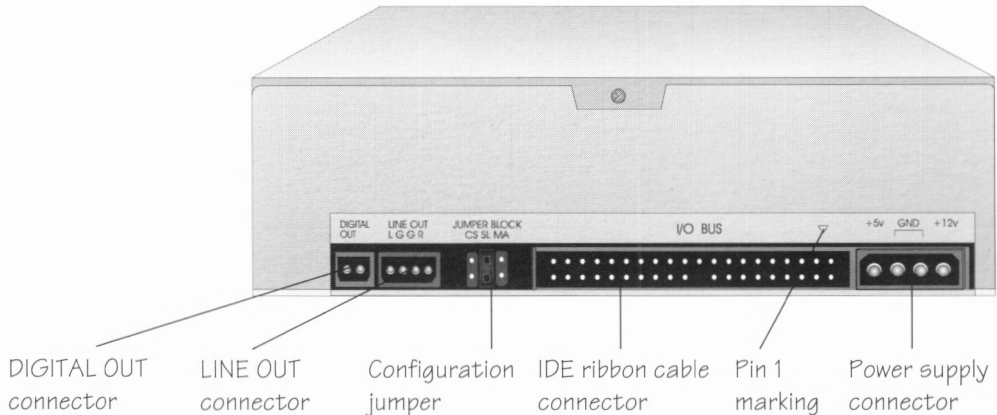

Fig. 7: Back of the CD-ROM drive (configured as slave drive)
7. Attach a large, 4-pin power supply cable to the power supply connector on the back of the drive. The cable is keyed so it only goes on the correct way. (See Figure 7.)
striped edge (pin 1) is next to the power supply connector. (See Figure 7.)
10. If you have a sound card, connect the sound cable that came with your CD-ROM drive to the connector labeled "LINE OUT" on the back of the CD-ROM drive. (See Figure 7.) Connect the other end to the internal audio input connector on your sound card. (Remove any other sound cables connected to your sound card.)